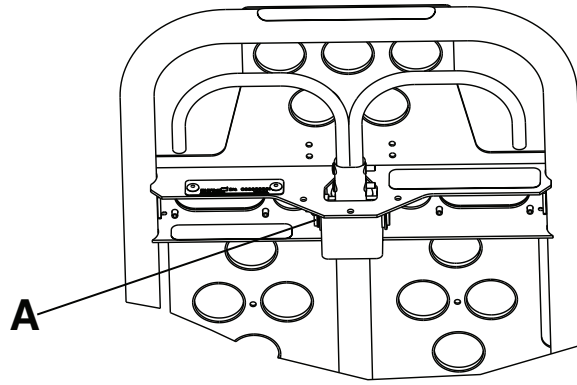

Figure 8 – Set screw location
2. Using a 3/32" hex wrench, loosen the set screw (A) that secures the gas shaft to the yoke (Figure 8).